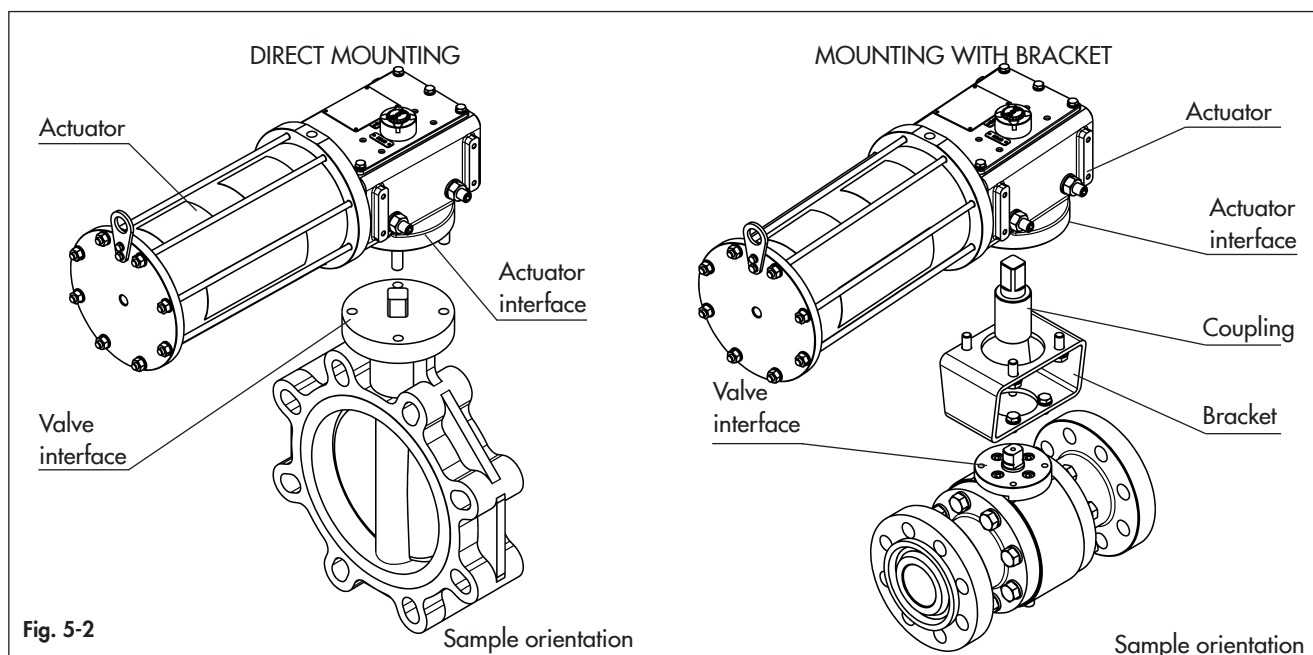

Fig. 5-2
- Check compatibility of actuator, valve and bracket bolting pattern. (Fig. 5-2).
Refer to Fig. 5-2 and proceed as follows to mount the actuator over the valve: